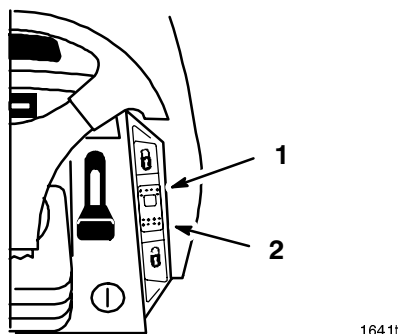

Figure 15
A 3 position: Set-Lock (spring loaded), On and Off-Unlock dash switch (Fig. 15) controls the engagement. Cruise control maintains the traction control position without foot pressure. Cruise control is intended for operation in the forward direction only. Do not use cruise control in reverse.
1. Begin driving tractor; refer to Driving Forward or Backward, Page 18. While holding your foot steady on the traction control, push the cruise control switch (Fig. 15) to the "SET"- "LOCK" position.
1. While holding your foot steady on the traction control, move the cruise control switch (Fig. 15) to the "UNLOCK"- "OFF" position.